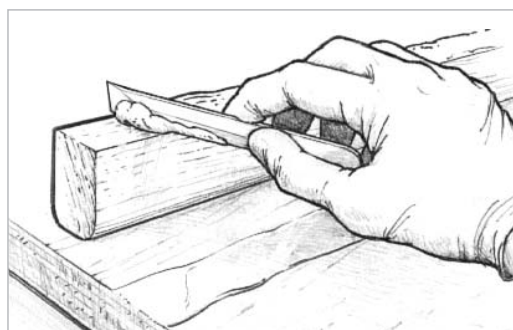

Figure 9-9 Apply enough thickened epoxy to one of the bonding surfaces so that a small amount will squeeze out of the joint when clamped with moderate pressure.
2. Apply thickened epoxy to one bonding surface. Modify the resin/hardener mixture by stirring in the appropriate filler until it becomes thick enough to bridge any gaps between the mating surfaces and to prevent “resin-starved” joints. Apply enough of the mixture to one of the surfaces so that a small amount will squeeze out when the surfaces are joined together with a force equivalent to a firm hand grip (*Figure 9-9*).